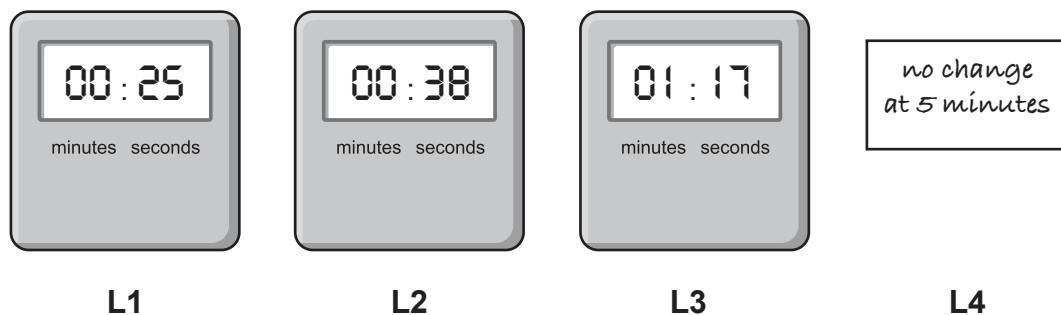

Fig. 1.1
The times from step 8 and step 9 are shown in Fig. 1.1.
- (ii) Prepare a table for the results. Convert the times shown in Fig. 1.1 to seconds and record them in your table.